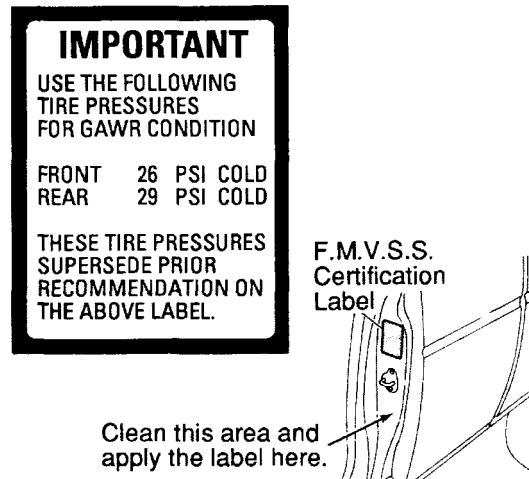

Figure 1
1. Before installing the new Tire Pressure Label, the left door frame just below the door latch striker must be cleaned. Using clean water and a dishwashing detergent, remove all dirt, oil and/or grease from the frame surface [Figure 1]
3. Apply the new Tire Pressure Label to the cleaned area [Figure 1]. To ensure proper adhesion, press firmly down on the center of the label, then wipe outward to the outer edges